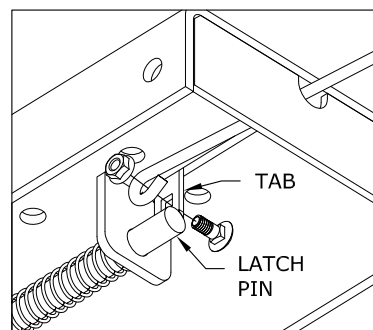

FIGURE F2: Handle Installation
2. Secure the handle to the pin with the 5/16" X 3/4" carriage bolt and 5/16" locking flange, see figure F2. Note: The included 5/16" cap screw can replace the carriage bolt if wrench access on the "cab side" of the handle is limited. Tighten the nut until it is secure. Do not over-tighten and deform the handle eyelet.